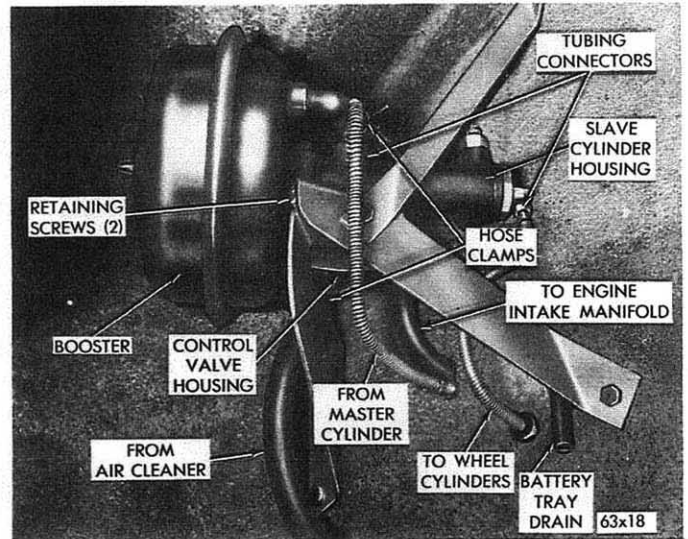

Fig. 4 - Remote Power Brake
The remote power brake system for the 300J Models is mounted on brackets under the left front fender, just back of the headlamp housing (Fig. 4). All the brake service procedures are the same as outlined in the 1963 Imperial and Chrysler Service Manual with the following exceptions:
(Fig 4), and permit the fluid to run until free of air bubbles.
- (3) Open the outlet bleeder screw (Fig. 4) and allow the fluid to run until free of bubbles.
- (4) Bleed the wheel brake cylinder in the following sequence: Left front, right rear, right front and left rear. Repeat if necessary and inspect for leaks.